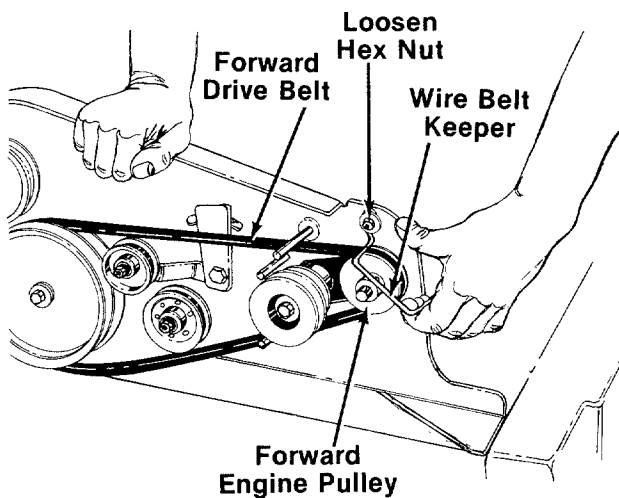

FIGURE 24.
- B. Pull bottom of wire belt keeper out and then upward, pivoting it away from the forward engine pulley. See figure 24.